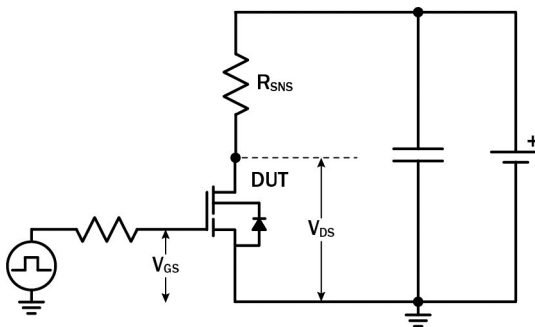

Figure 19. Dynamic $R_{DS(on)eff}$ Test Circuit
- Dynamic on-resistance; see Figures 19 and 20 for test circuit and conditions